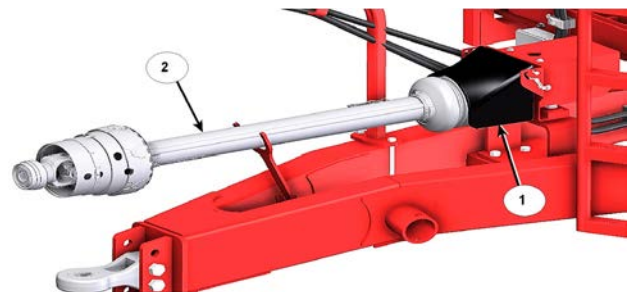

Figure 1: Remove the Tractor Driveline
1. Lift the PTO guard (1), see *Figure 1*.
2. Disconnect the driveline (2) from the tractor to the bearing, see *Figure 1*.